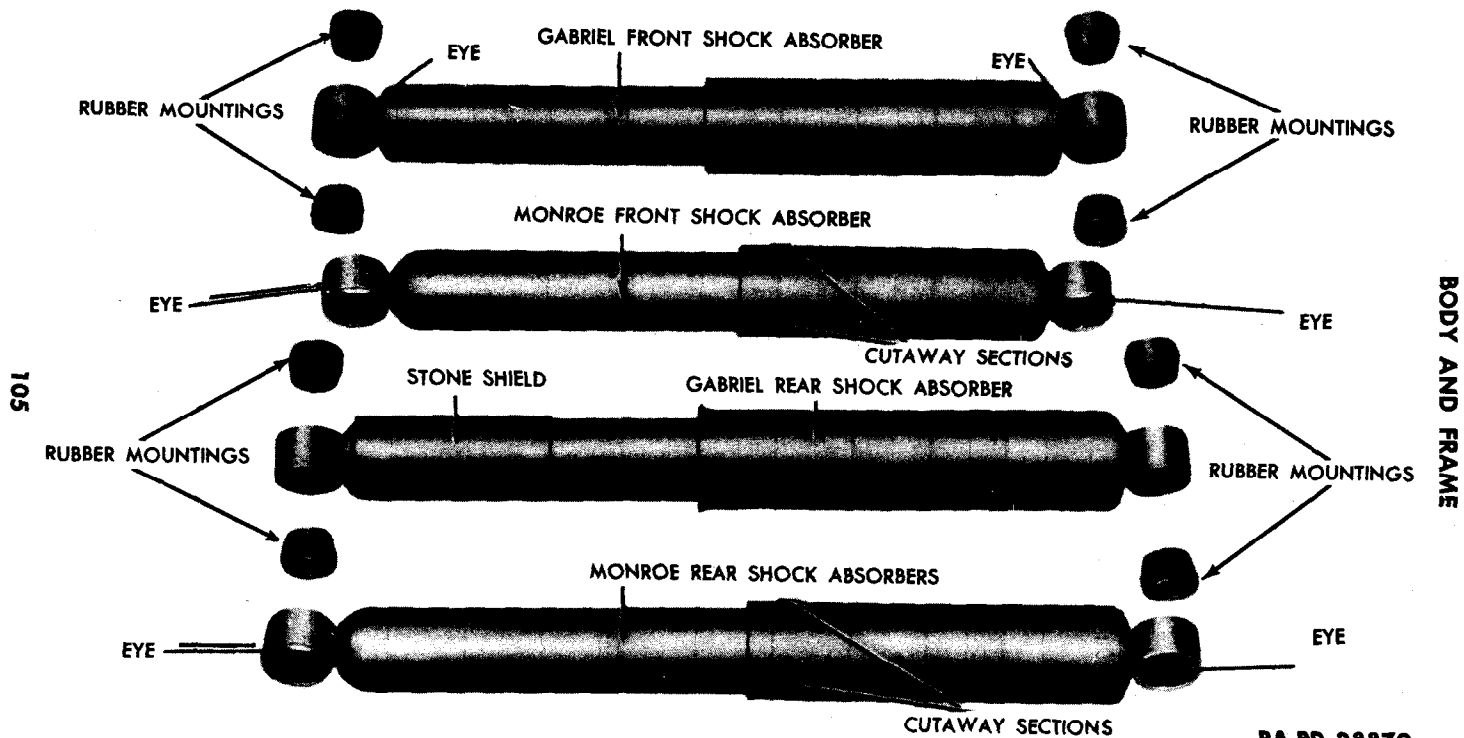

Figure 87 — Monroe and Gabriel Shock Absorbers
(1) **DESCRIPTION.** The Gabriel shock absorbers used on some of the vehicles can be distinguished from the Monroe type (par. 38) in that the upper tube has no cutaway section (fig. 87). Four of these direct-acting shock absorbers are used, one at each side of each axle. These shock absorbers are sealed at the factory with the proper amount of fluid and are non-refillable. These shock absorbers are adjustable (subpar. e, below).
d. Installation (figs. 35 and 77). Insert a rubber mounting in each side of the upper and lower eye of the shock absorber. Place the shock absorber onto the spring seat plate and onto the bracket on the frame. Install the flat washer and cotter pin that secure the upper end of the shock absorber to the frame. Install the flat washer and cotter pin that secure the lower end of the shock absorber to the spring seat plate. Install the rear shock absorbers so that the stone shield (fig. 87) on the shock absorber is facing forward on the vehicle.
(1) **DESCRIPTION.** The Monroe type shock absorber used on some of the vehicles can be distinguished from the Gabriel shock absorber by the cutaway sections on the outer shell of the shock absorber (fig. 87). Four of these direct-acting shock absorbers are used, one on each spring. These shock absorbers are refillable (subpar. e (5), below) and can be disassembled for repairs. They are also adjustable (subpar. e (3), below).
(2) DATA.